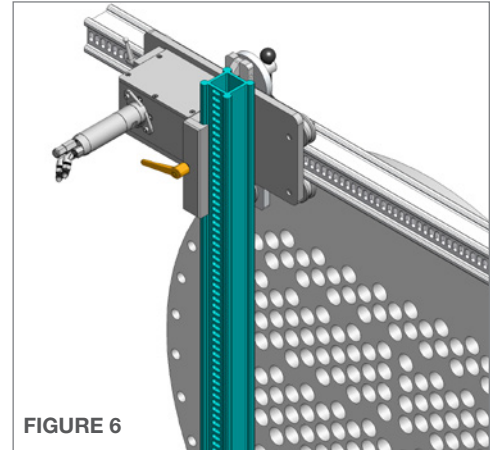

FIGURE 6
- Loosen the **Large Adjustable Handle** for the Vertical Rail Clamp. Align the Idler Carriage with the vertical rail clamp on the horizontal carriage. Install the **Vertical Rail** with **(slots facing out)** down through the horizontal carriage clamp and between the rollers on the idler carriage. Adjust the position of the vertical rail as required and secure the clamp on the horizontal carriage by tightening the large adjustable handle. **(Figure 6)**